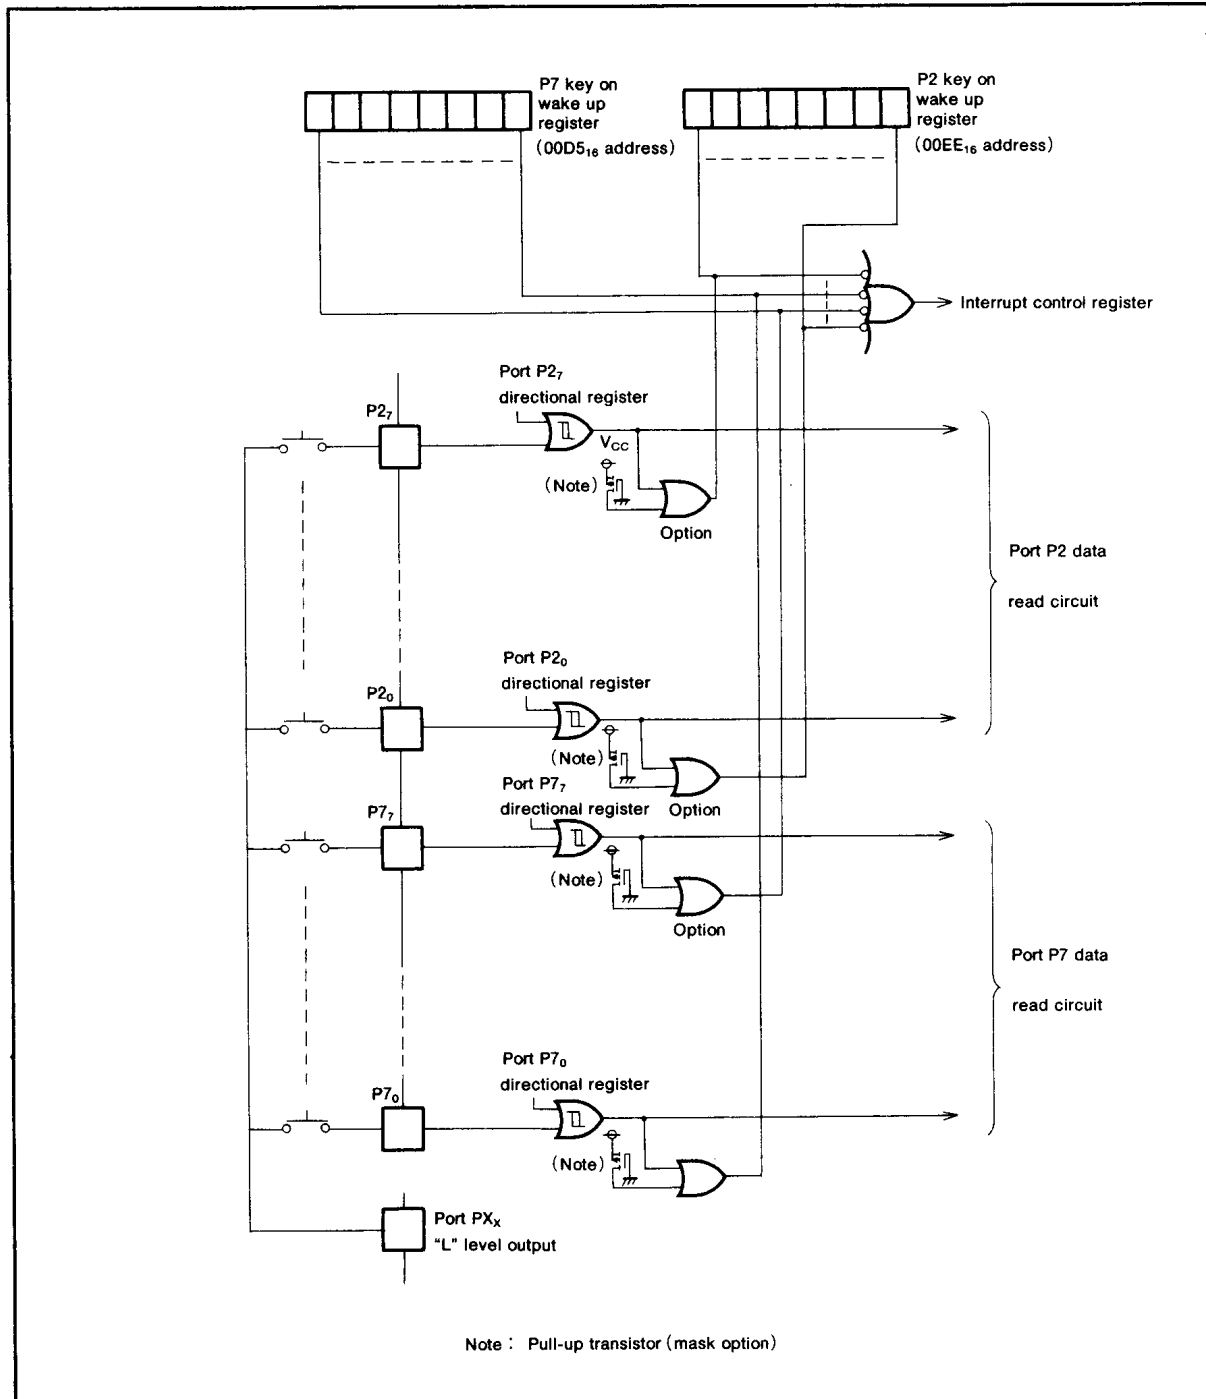

Fig. 16 Block diagram of port P2, P7 and example of wired at used key on wake up
As shown in Figure 16, if the key matrix of active "L" to input port P2, P7 are constructed, the microcomputer is returned to normal operating state by the key push. Refer to the section of interrupt how to use the key on wake up function. In order to enter the power down state generated by the STP or WIT instruction at the interrupt disable flag (I) is "0" and IC_2 is "1", the input designated as key on wake up by option in port P2, P7 must be all "H".